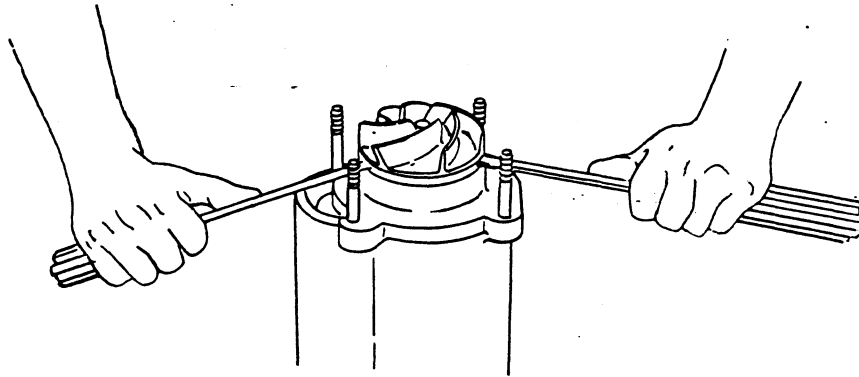

Figure 2. Removing Pump Impeller
Remove the piece of wood from between the vanes of the impeller. Pry off the impeller using two flat-bladed screwdrivers as shown in Figure 2. Retain the impeller key (9). Use caution when removing the impeller from the shaft; tension on the seal spring will be released, and the seal plate (48) will become a free part.